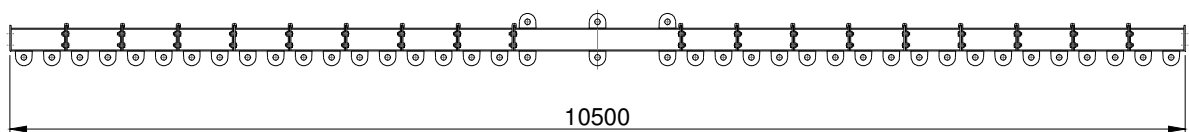

Figure 3 – Maximum Overall length of 10 tonne Lifting Beam
5. Extension pieces are to be added as per Steps 2 through 4 until the desired lifting length has been reached. The overall length of the lifting beam is not to exceed 10.5 m – see Figure 3.